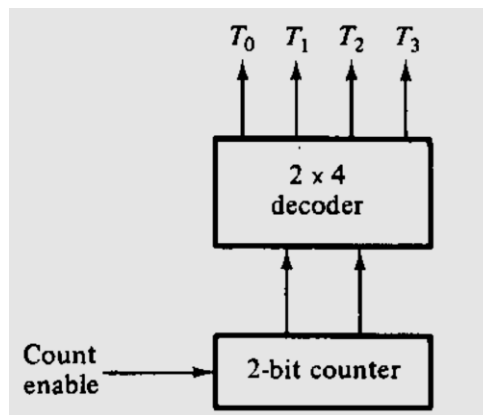

Figure 11.2 4-bit ring counter
- Fig. 11.2 shows a 4-bit ring counter using decoder and counter.